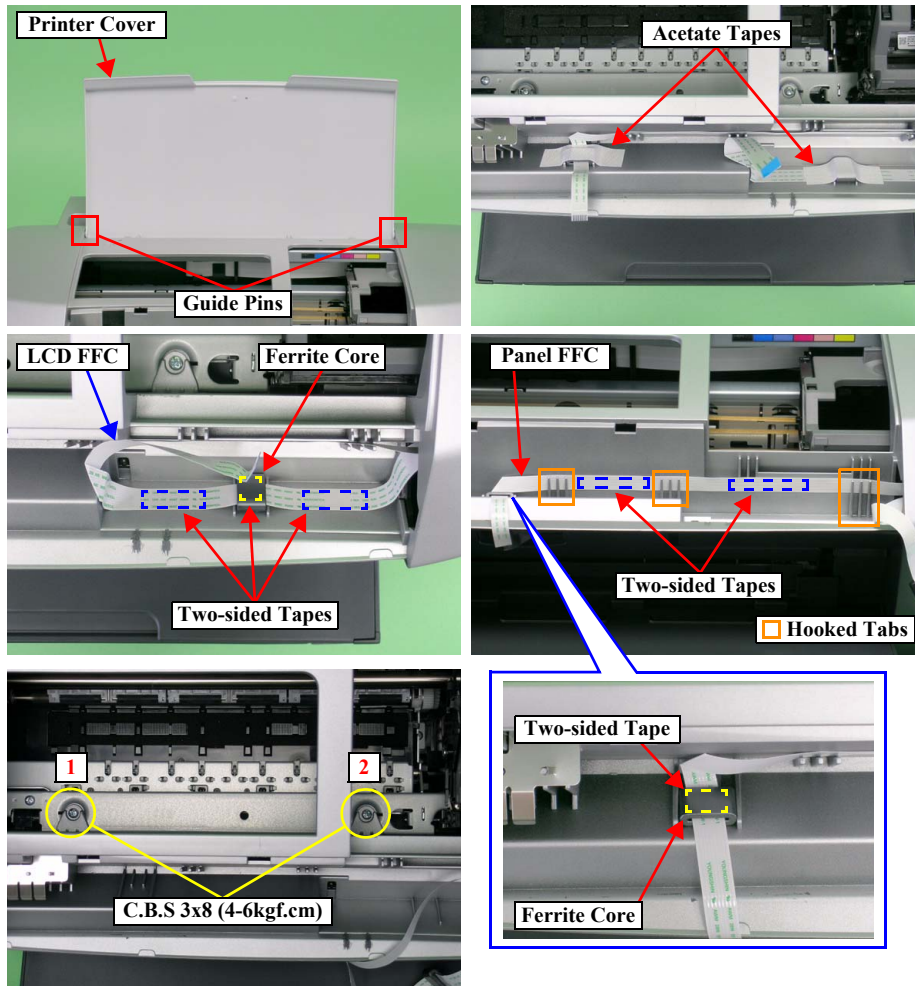

Figure 2-11. Removing the Upper Housing (1)
- Tighten the screws to secure the Upper Housing in the order shown in Figure 2-11.
- Make sure to route the Panel FFC and the LCD FFC as shown in the Figure 2-11.